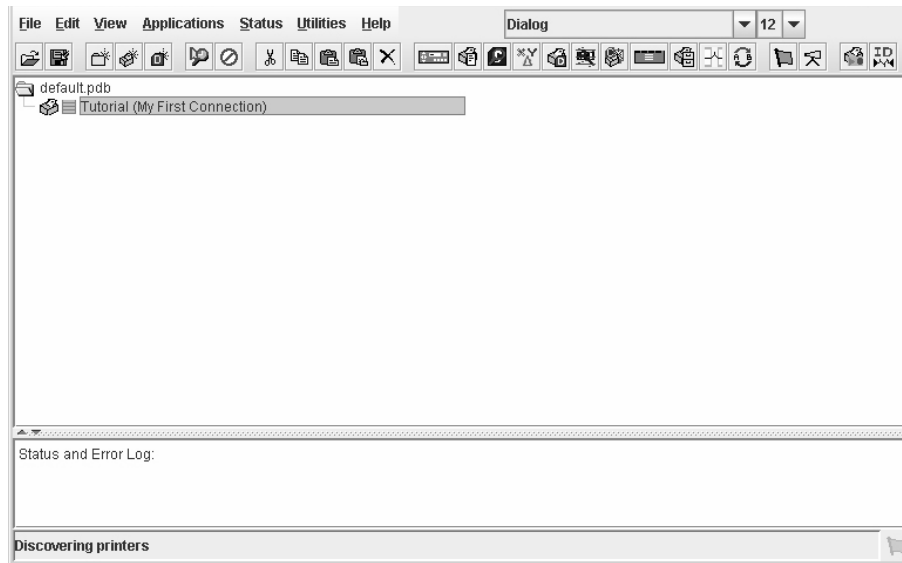

Figure 6. Printer Database Main Window
11. Click **OK**. The Printer Properties dialog box closes and you return to the printer database main window. See Figure 6. Your printer is now set up in the PMU database.
- a. **Tutorial (My First Connection)** should be highlighted in blue, as shown in Figure 6. If it is not highlighted, click it to select it.